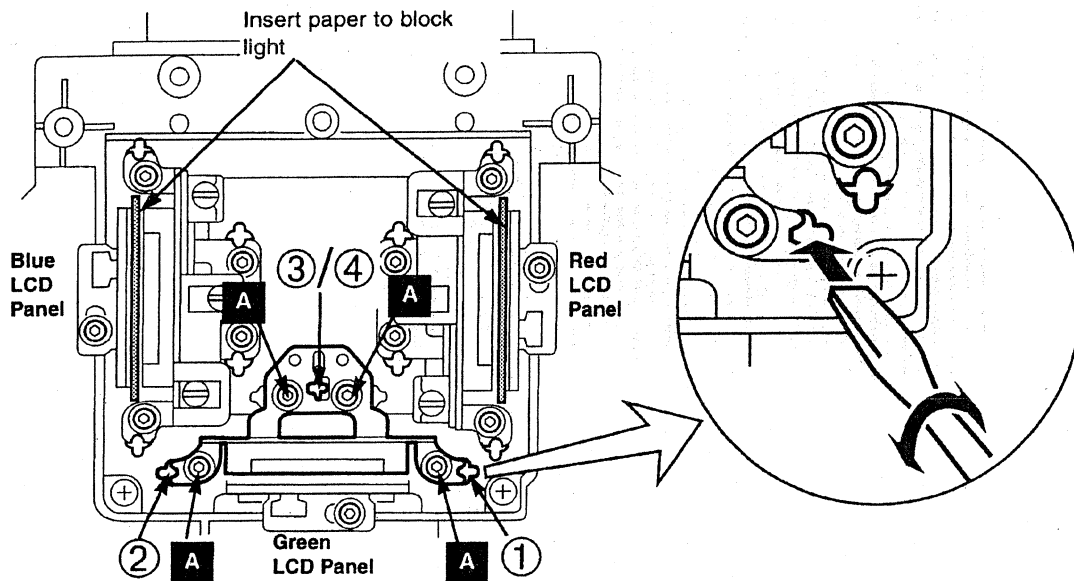
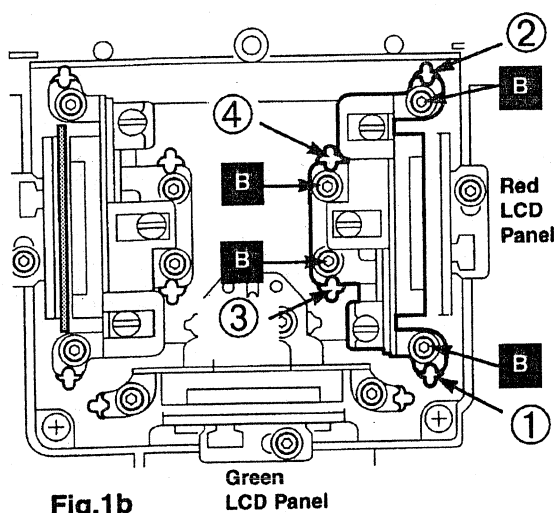
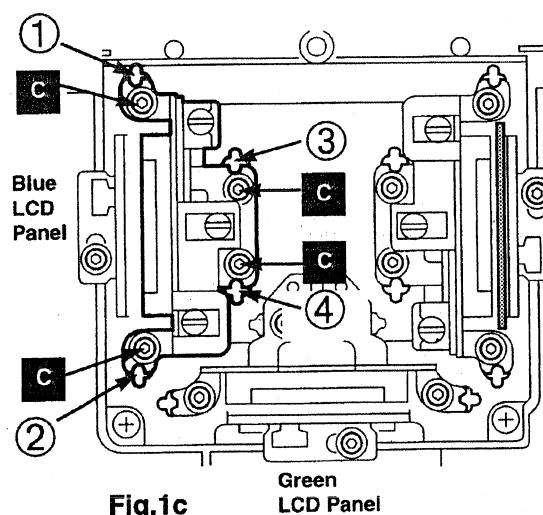
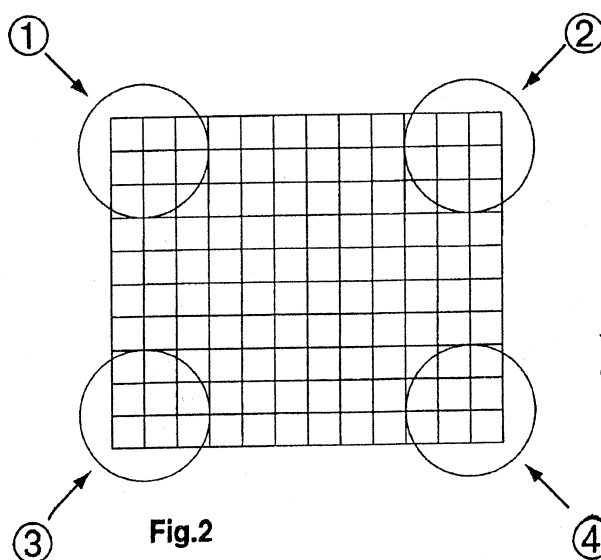

Fig.1a
Fig.1b
Fig.1c
Fig.2
4. Loosen the 4 screws "A" with the 2.0mm hex driver (Fig.1a).
5. Insert the slot type screwdriver in the slots ①, ② and ③/④ (Fig.1a) and gently turn the screwdriver until the each corner of screen is in sharp focus. The relation of adjustment points and screen corners are indicated with ①, ②, ③ and ④ shown in Fig.1a and Fig.2.
4. Loosen the 4 screws "B" with the 2.0mm hex driver, see Fig.1b.
5. Insert the slot type screwdriver in the slots ①, ②, ③ and ④ (Fig.1b) and gently turn the screwdriver until the each corner of screen is in sharp focus. The relation of adjustment points and screen corners are indicated with ①, ②, ③ and ④ shown in Fig.1b and Fig.2.
4. Loosen the 4 screws "C" with the 2.0mm hex driver, see Fig.1c.
5. Insert the slot type screwdriver in the slots ①, ②, ③ and ④ (Fig.1c) and gently turn the screwdriver until the each corner of screen is in sharp focus. The relation of adjustment points and screen corners are indicated with ①, ②, ③ and ④ shown in Fig.1c and Fig.2.